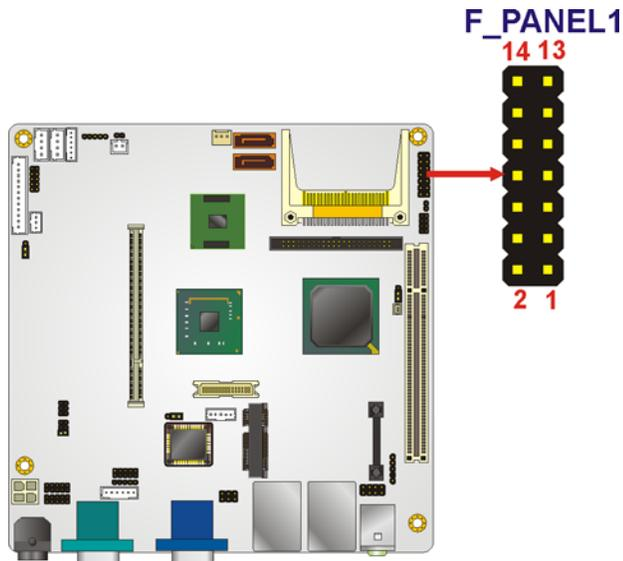

Figure 4-6: Front Panel Connector Pinout Locations
- CN Location:** See **Figure 4-6**